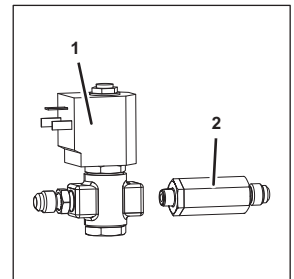

Fig. 71
1. Disconnect the non-return valve (Fig. 71/2) from the solenoid valve (Fig. 71/1).
2. Apply thread adhesive to the thread of the new non-return valve (Fig. 71/2).
3. Attach the non-return valve (Fig. 71/2) to the solenoid valve (Fig. 71/1).